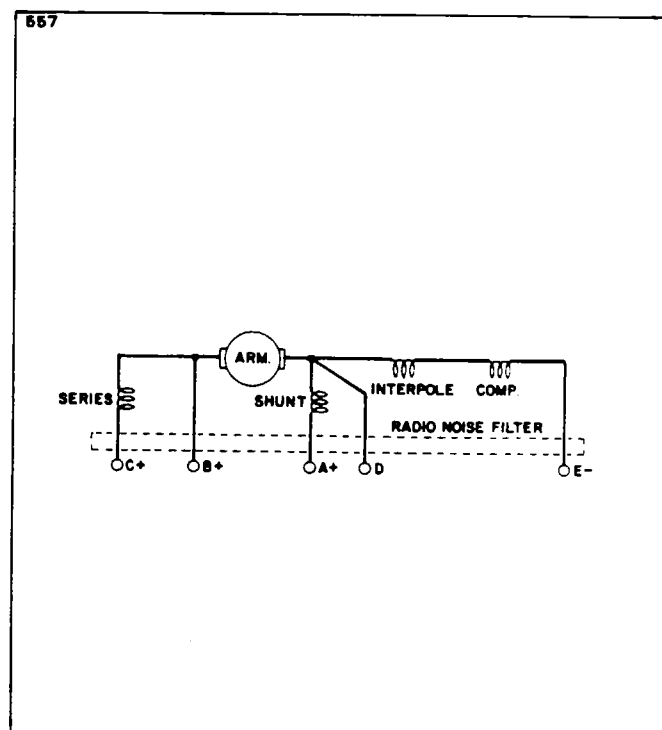

Figure 24-4. Electrical Connections of Starter-Generator
12. Install brushes and secure brush and field leads with appropriate screws. Make electrical connections per Figure 24-4.